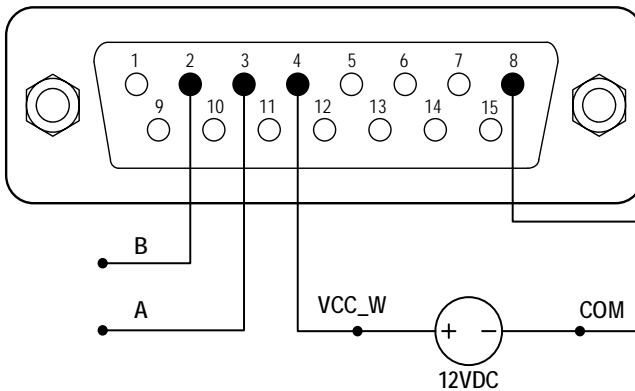

Figure 18. RS485 MODBUS Wiring
- 1) When the power is off, wire the DB15 connector as shown in Figure 18, and connect it to the DB15 port on the rear of the pump. An external DC power source is recommended to avoid electrical interference.